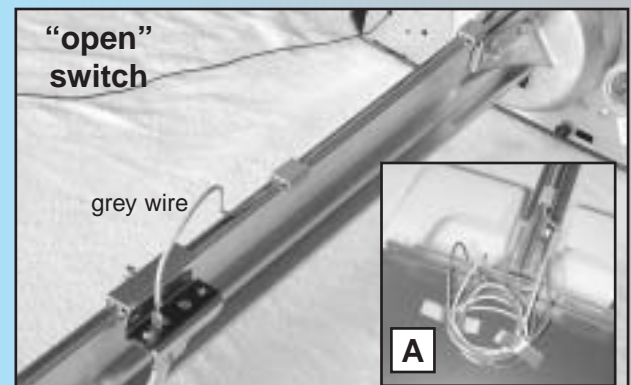

Fig. 1-21
- Place “OPEN” limit switch over top of rail about 12 inches from power head. **Fig. 1-21.**
- Attach grey wire to switch. **Fig. 1-21.**
- Leaving some slack in wire (**Fig. 1-21**), run wire down inside groove in top of rail back to power head.
- Use wire clip [44] to help maintain slack. **Fig. 1-21.**